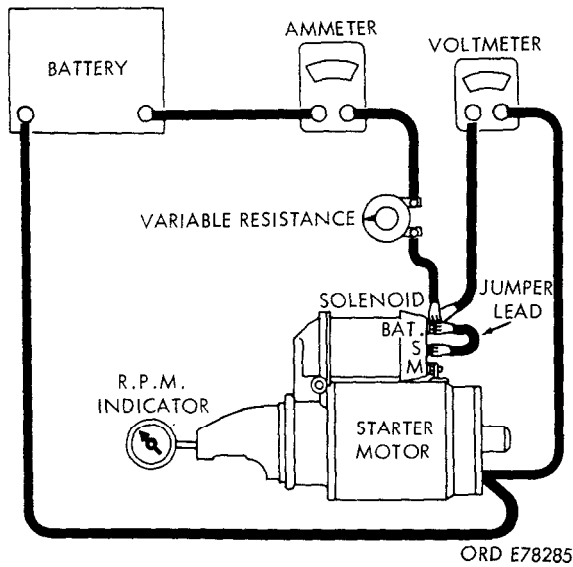

Figure 4-35. No-load test wiring diagram.
a. No-Load Test. (Fig. 4-35.)
(1) Connect a 24-volt battery supply in series with an ammeter and variable resistance to the battery terminal of the solenoid. For the return circuit, connect a lead from the terminal stud on the commutator end of the starter to the battery. Connect a voltmeter from the solenoid "BAT" terminal to ground. Energize the solenoid relay by connecting a jumper lead from the solenoid relay battery terminal to the solenoid relay switch terminal. Check the rotation speed of the armature with a tachometer. Obtain the specified voltage (22.0 volts) by varying the resistance unit. Minimum speed should be 7000 rpm. Check the current draw